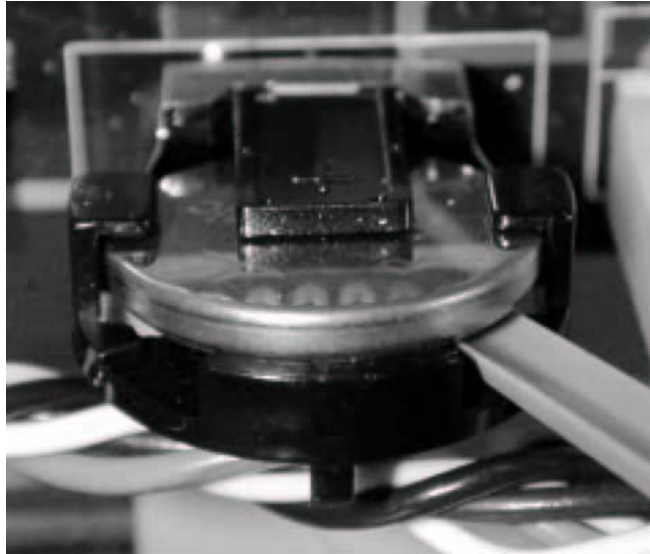

Figure A-1 Freeing battery from retaining clip
1. Insert your fingernail, a plastic knife, or a pen cap in one of the slots on the top of the battery's retaining clip and gently pry the battery loose from the retaining clip, as shown in Figure A-1. (In the PC161, the battery is very close to the rear panel and may be hidden behind a cable.)